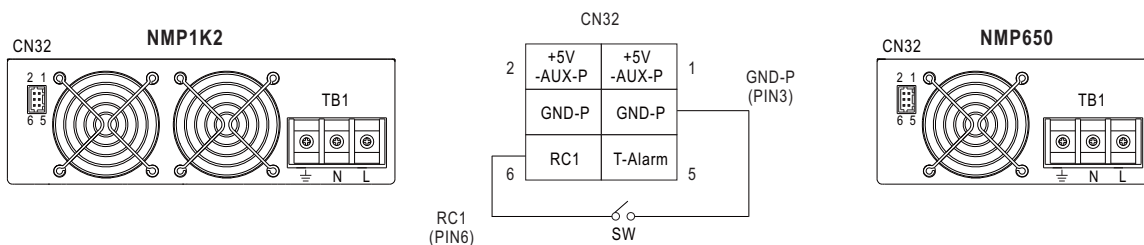

Figure 5-4
- Figure 5-4 shows RC1 (CN32 PIN6) and GND-P (CN32 PIN3) connection diagram.